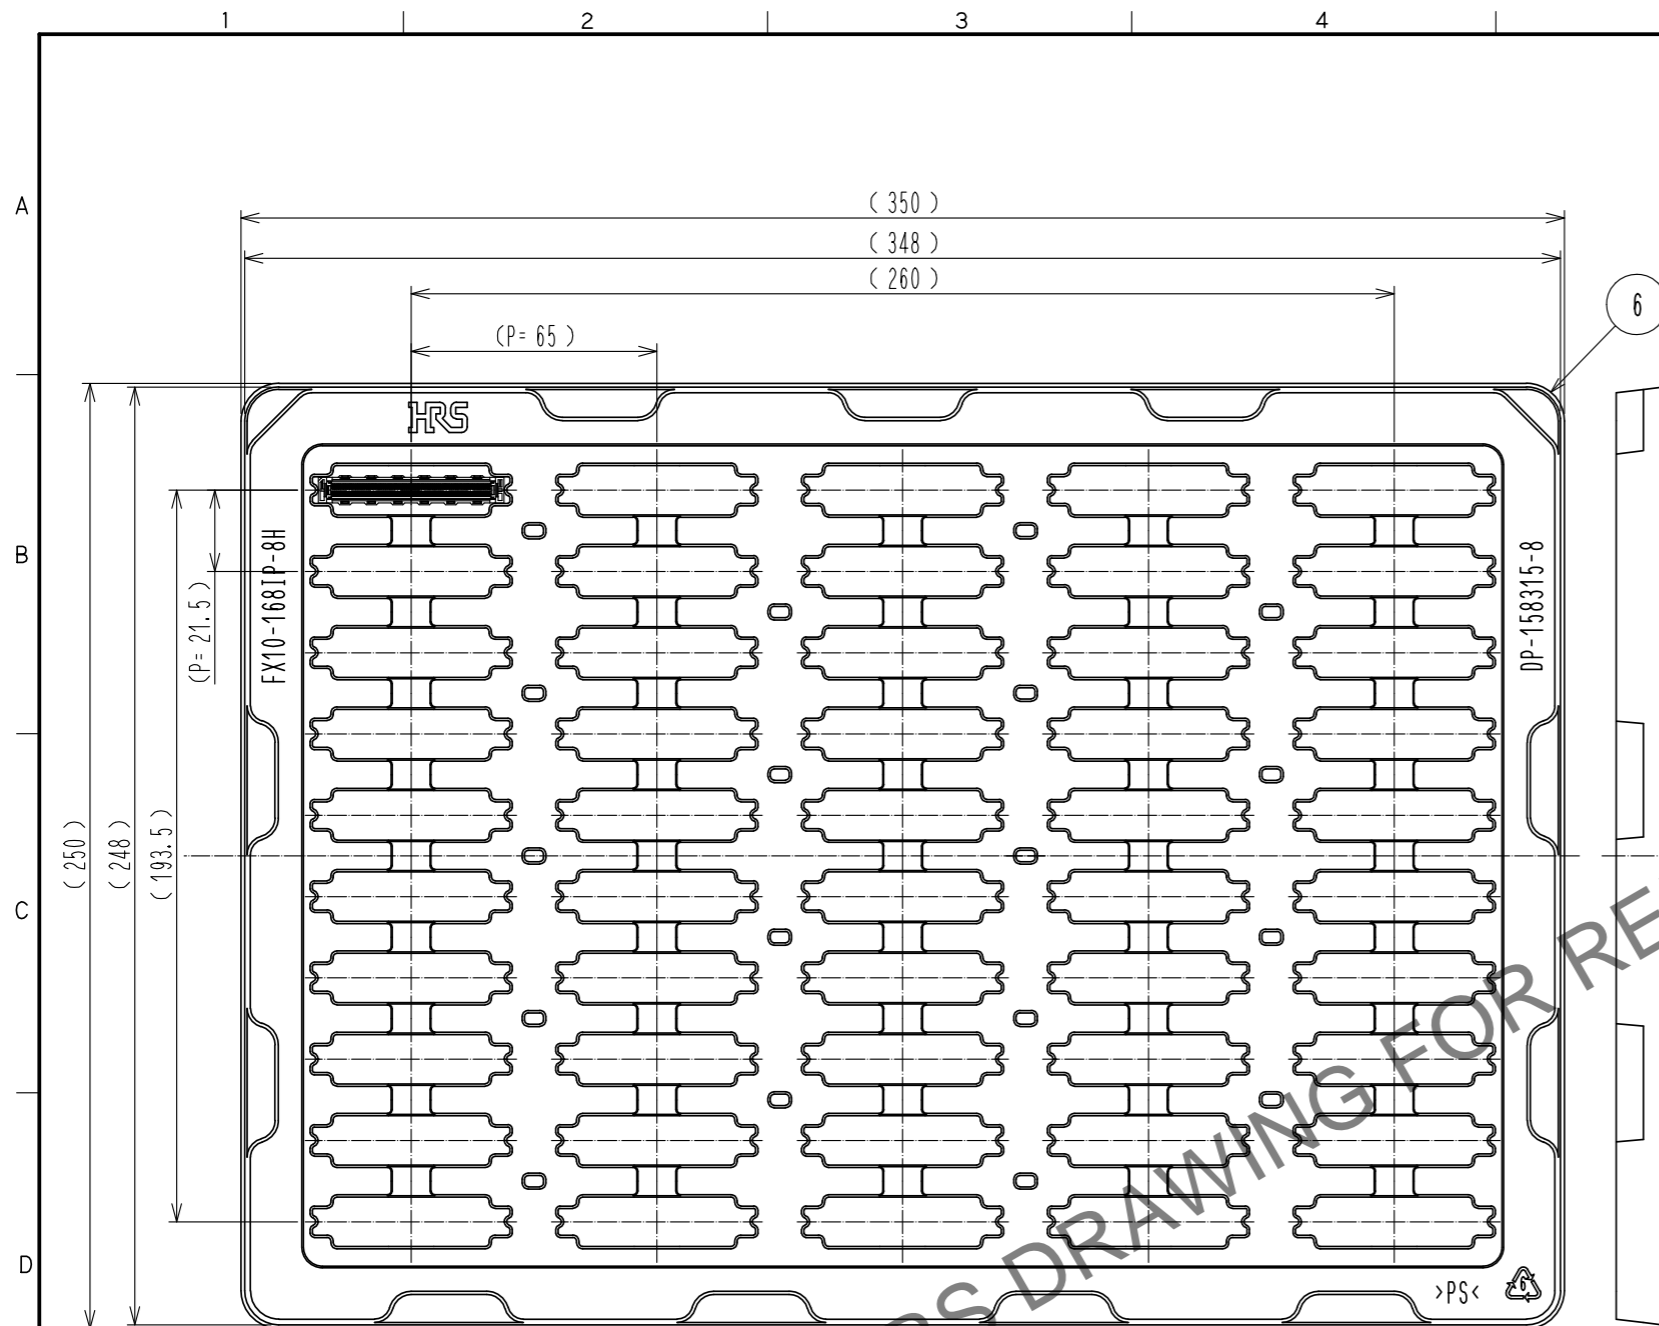

Fig.3 Drawing for packing (1:2) ◀ 6
- 6 50pcs of this product are packed in soft tray. See Fig.3 for details.